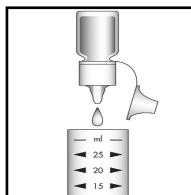

Figure 1
1. Add 5 drops of S-7004 Acidifier Solution to the empty sample cup (fig. 1).